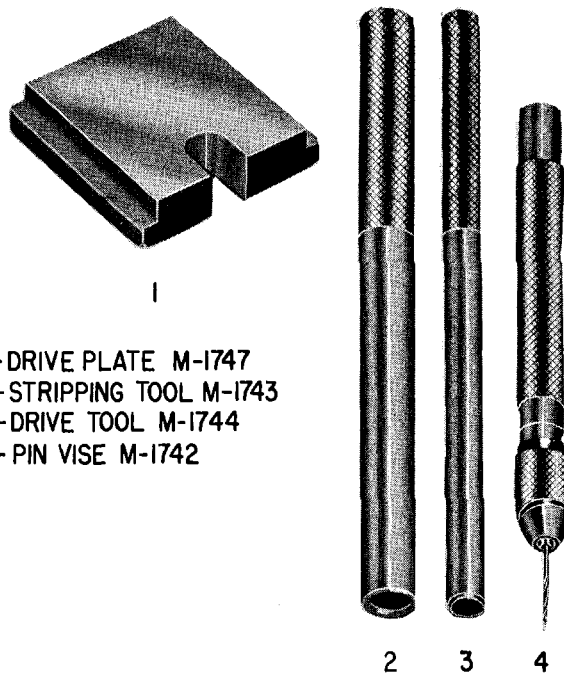

Figure 4-6. Tooling, Slick Harness
4-17. Cut the individual cable to the required length shown in Table 4-1. Make a mark 7/8" from the magneto end and 1" from the spark plug end. Flare out the copper shielding and insert the stripping tool (figure 4-6) beyond the mark. Do not allow the shielding to fold under while inserting tool. With a sharp knife, and using a rolling motion while cutting, cut and remove the copper shielding at the marks. Remove the stripping tool.
4-18. At both ends cut the exposed insulation back from the end 1/16 inch. Do not pull insulation from wire, remove by turning clockwise. Trim the coiled conductor, conductor should protrude approximately two coils. Using the pin vise (figure 4-6) drill and remove silicone rubber from the inside of the coiled conductor, this will facilitate installation of the electrode screw in a later step.
4-19. SPARK PLUG END. Install hex ferrule (8) over lead with flange end toward end of wire. After assembly of this ferrule, bend and rotate the silicone insulation to flare out the copper shielding. Install drive ferrule (9) over insulation and under shielding to within 1/16 inch of flange of hex ferrule. Slide hex ferrule over drive ferrule until tight. Mount drive plate (figure 4-6) in a bench vise. Set hex ferrule in slot of drive plate and, using the drive tool (figure 4-6) drive the drive ferrule flush against the hex ferrule. Install spark plug nut (7) on cable with threaded end toward ferrules.
4-21. BOTH ENDS. Clamp threaded end of electrode screw (3 and 10) in pin vise (figure 4-6) and assemble the screw into the center of the coiled conductor. Turn counter-clockwise and push the screw until the tapered pin portion is flush with the insulation. Place sleeve (2 and 11) over insulation and turn spring (1 and 12) onto electrode screw until the end of the screw is flush with the first large coil of the spring.